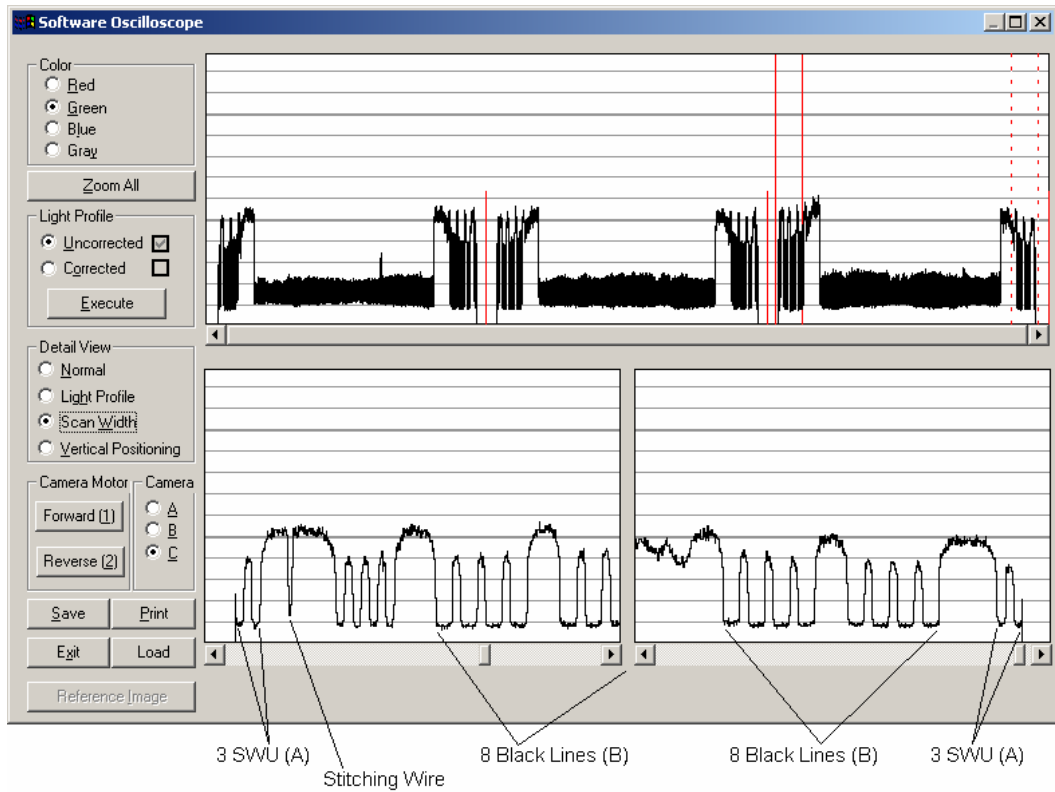

Fig. 4-25 CHROMA Tx 40, CRYSTAL Tx 40, Scan-Width, Camera C
- Fig. 4-25 CHROMA Tx 40, CRYSTAL Tx 40, Scan-Width (C), page 105